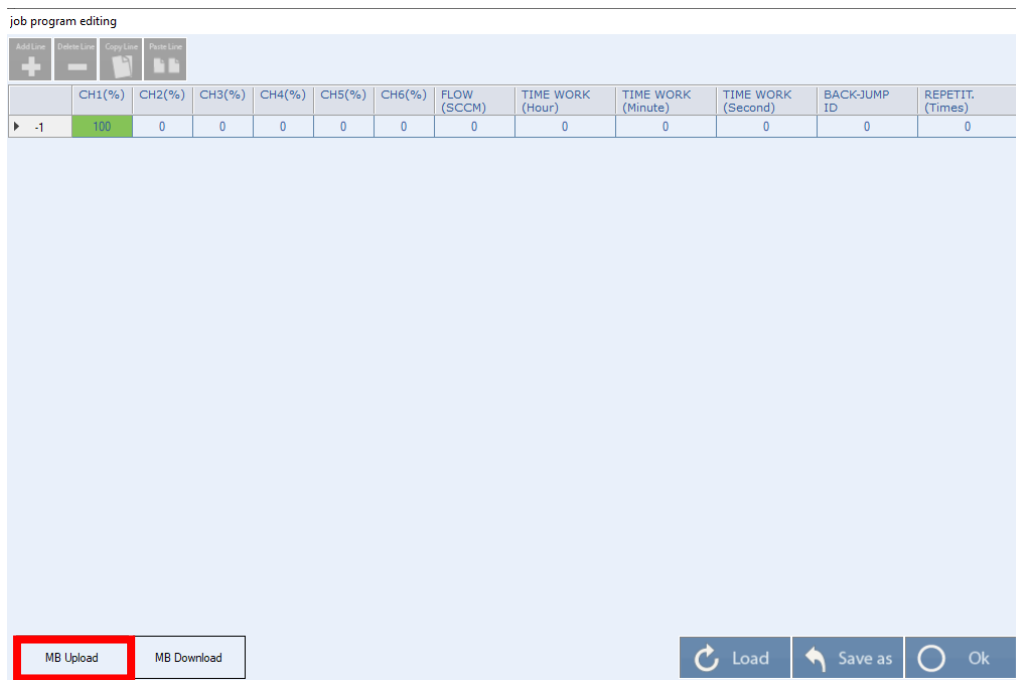

Figure 5-36
6. With the “MB Upload” button is possible to read the last program saved on the instrument. (Figure 5-36)